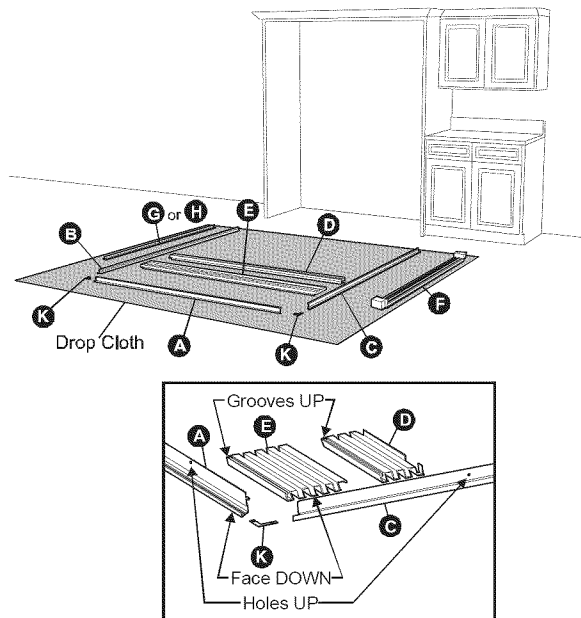

Figure 1
- Lay the parts out on a cleared area face down. Be sure to place a drop cloth over the floor to prevent scratching the trim kit and/or floor. See Figure 1.